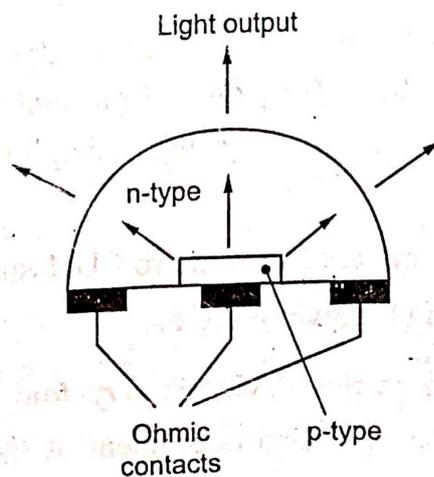

Fig 6.3 Structure of a dome LED
- ♣ The structure of a typical dome LED is shown in Fig 6.3. A hemisphere of  $n$  type GaAs is formed around a diffused  $p$  type region. The diameter of the dome is chosen to *maximize the amount of internal emission* reaching the surface within the critical angle of the GaAs-air interface.